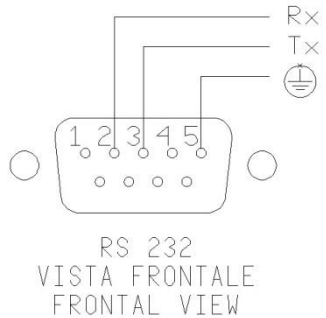

Fig.7
- Connect the thermostat's electrical terminals to the bushes terminals (4).
On the front of the calibrator there is a 9 pole socket (5) connected to the thermostat, which enables the calibrator to be completely controlled by a PC (reference to fig.7). The standard adopted RS-232 (contact the technical department for the communication number).